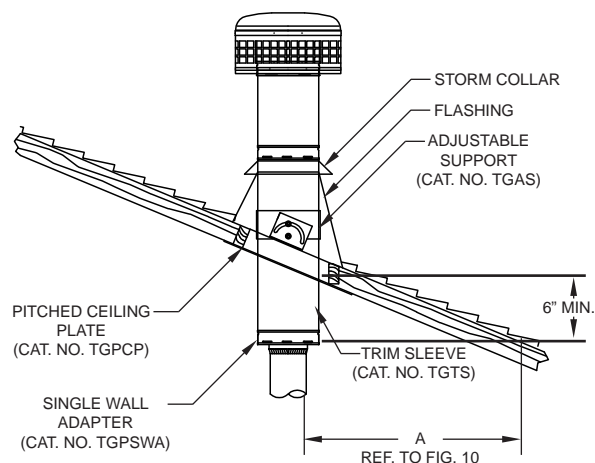

FIG. 11
9. **WARNING:** Use only Single Wall or Double Wall Black Stove Pipe connector below the ceiling line as shown in **FIG. 11**. Use of additional TG pipe as a connector is prohibited.